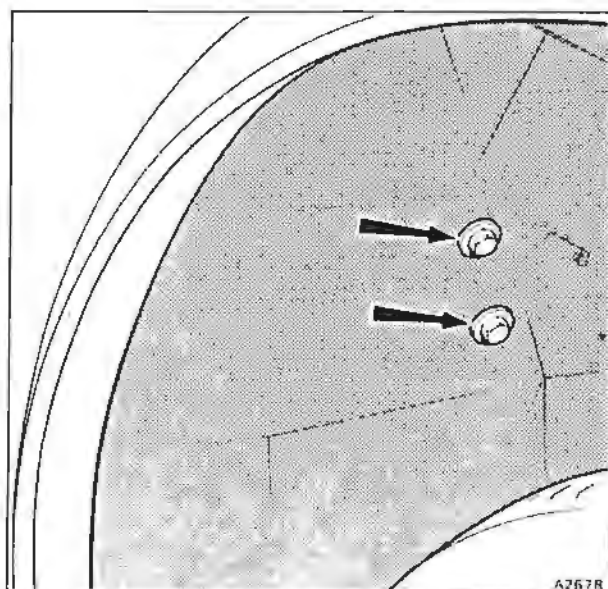

Fig. B4-59 Ignition coils mounting bracket retaining screws
6. Locate the two setscrews in the rear section of the front right-hand wing. These screws retain the mounting bracket for the coils (see fig. B4-59). Unscrew the setscrews and carefully withdraw both coils and mounting bracket as one assembly.